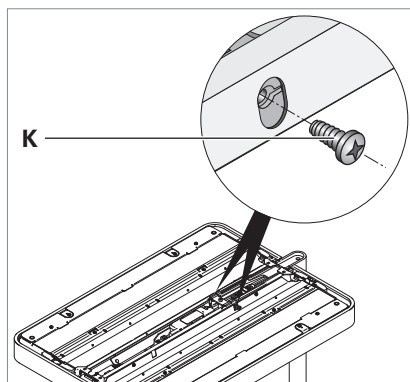

Fig. 6: Fastening the light head.
- Fasten the light head by screwing in and tightening both fastening screws **K**, see Fig. 6.